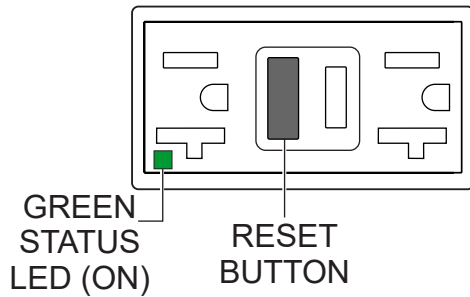

Figure 78. GFCI Receptacle (ON/Restore)
5. Press the **RESET button** (Figure 78) to restore power to the GFCI receptacle and verify that the status LED is **ON (GREEN)**.